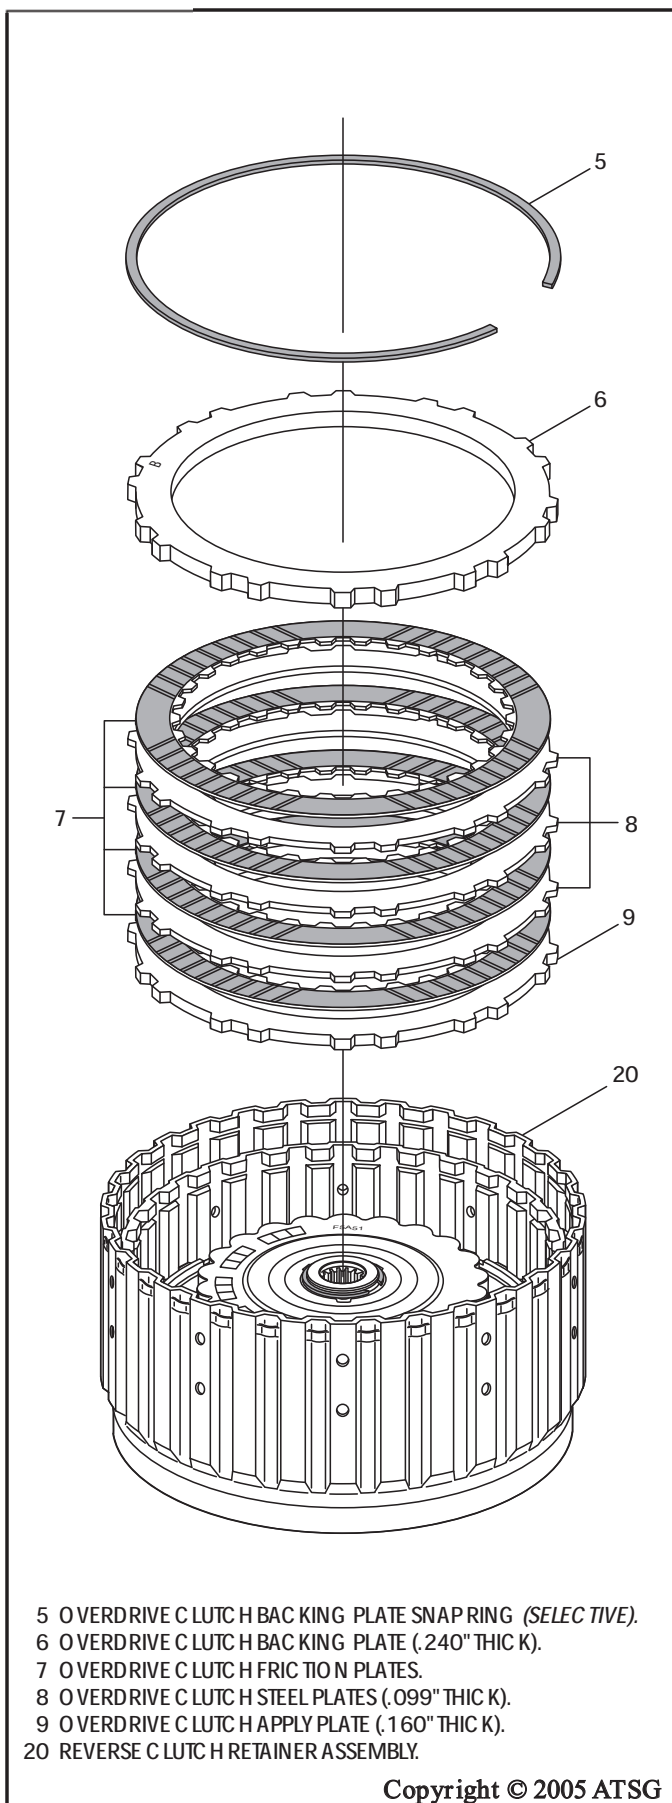

Figure 82
15. Alternate with friction and normal steel plates, as shown in Figure 82, until you have installed 4 frictions and three steel plates.
16. Install the overdrive clutch backing plate, as shown in Figure 82, with the rounded edge toward friction plate.
17. Install the selective backing plate snap ring, as shown in Figure 82